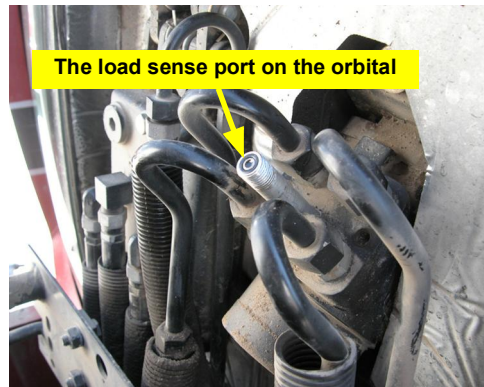

Figure 8-3c: Load sense hose disconnected from load sense port
c. Disconnect the tractor load sense hose from the load sense port of the steering orbital (Figure 8-3c).